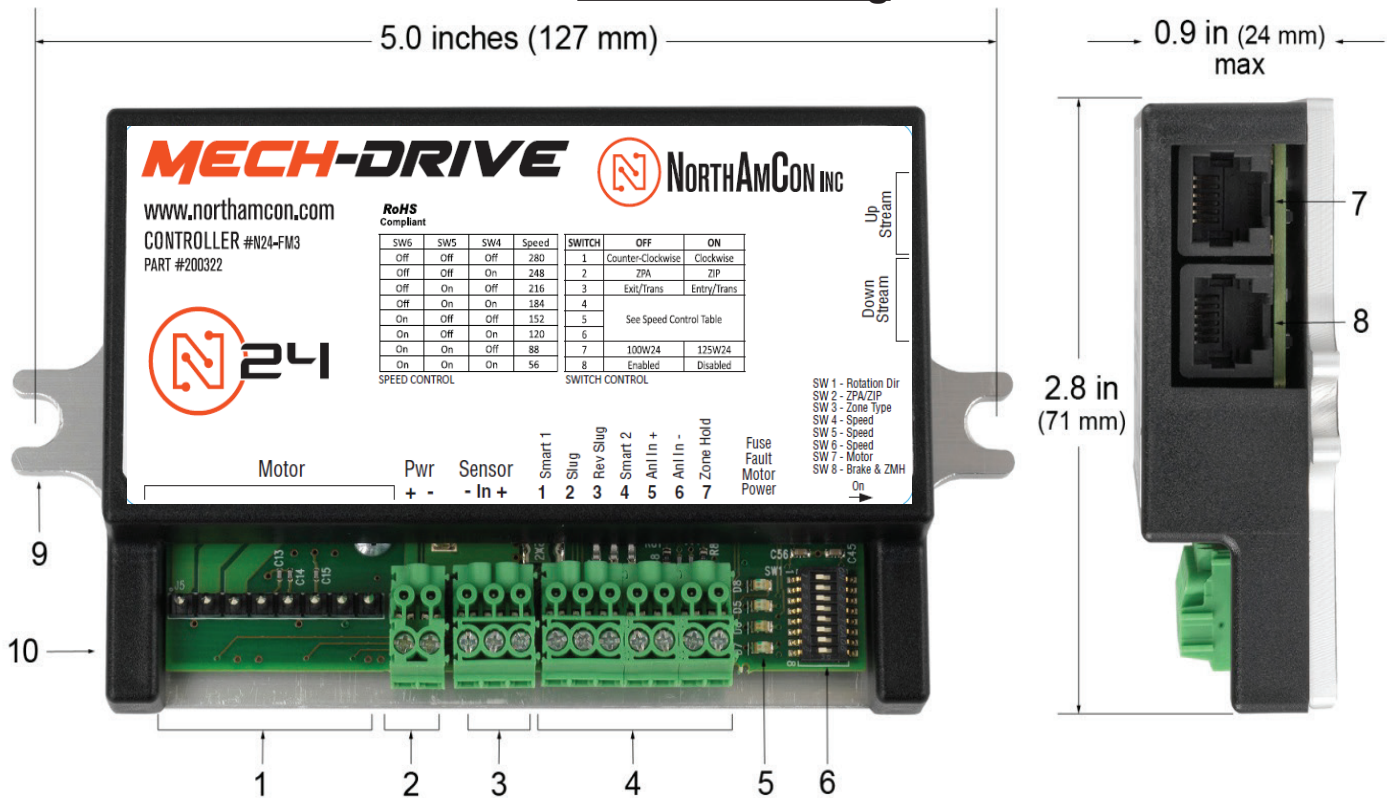

Figure 1: MECH-DRIVE N24-FM3 Controller Components
The Mech-Drive N24-FM3 provides four (4) LED indicators shown as item 5 in Figure 1: Mech-Drive N24-FM3 Controller Components. These LEDs are often useful in diagnosing various wiring and connection problems. If power is connected there will always be at least one LED illuminated or flashing.